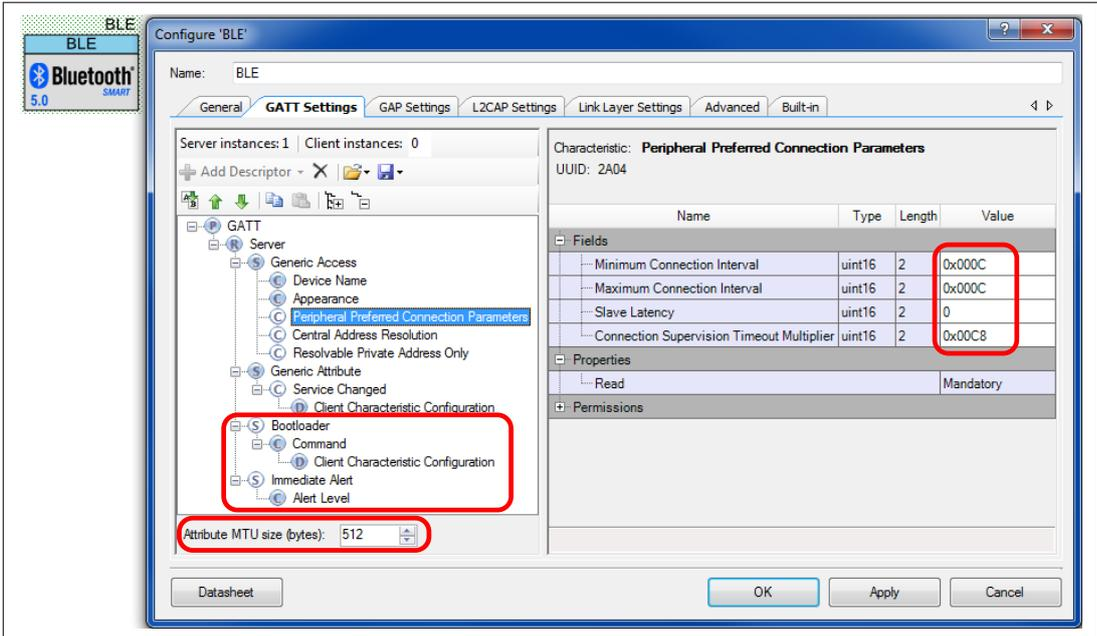

Figure 25 PSoC™ Creator BLE component, GATT Settings tab configuration
- GATT Settings tab (see Figure 25):